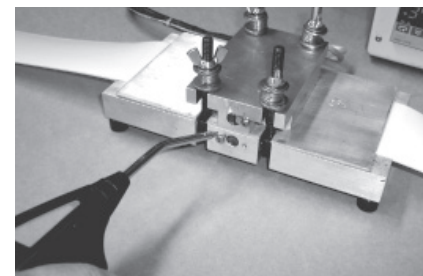

Fig. 9
13. Position the compressed air nozzle at the front of the welder between the two slots and blow air on it until the welding fixture cools to a temperature of 82°C/180°F as indicated on the control box. See Fig. 9.